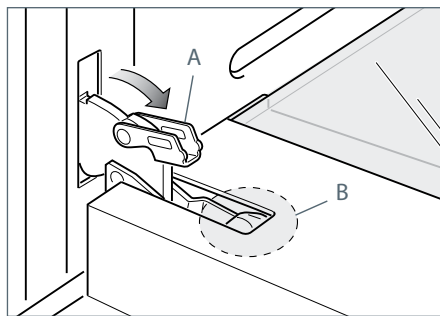

Fig.40b
- 2 Open the lever "A" completely on the left and right hinges (Fig. 40b).